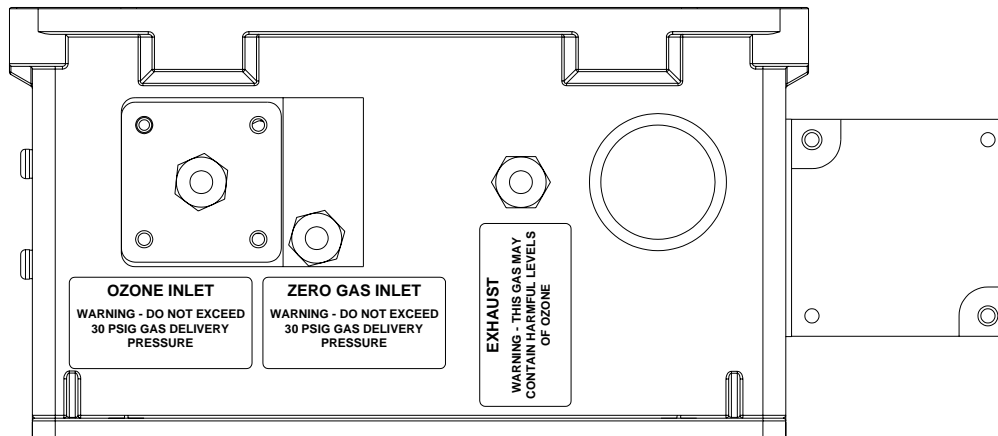

Figure 2-2 Pneumatic Connections
2. Connect the ozone delivery line to the ¼” inlet fitting labeled “Ozone Inlet” on the bottom face of the enclosure (See Figure 2-2.) The ozone delivery should be regulated to no more than 30psig. All tubing used should be made of ozone resistant material such as PTFE(Teflon™) or FEP. API can supply appropriate tubing for connecting the ozone supply line.